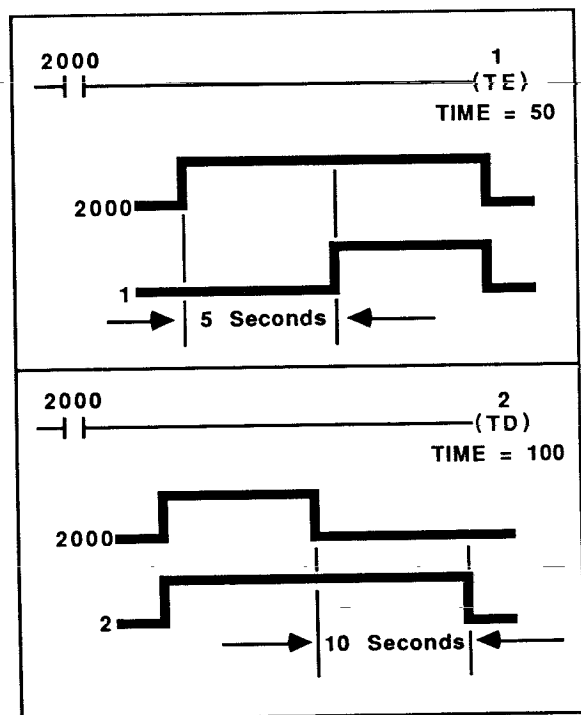

Figure 5-12 TE and TD Timers
Two timers are supported by the PiC: time delay to energize (TE), and time delay to de-energize (TD). Figure 5-12 illustrates how the timers operate through the use of a timing diagram.
The timers are programmed in 1/10 second increments (in the default mode). Therefore, a delay of five seconds exists between the energizing of timer 1 and the closing of the associated contacts in Figure 5-12. A delay of ten seconds exists between the de-energizing of timer 2 and the opening of the associated contacts.